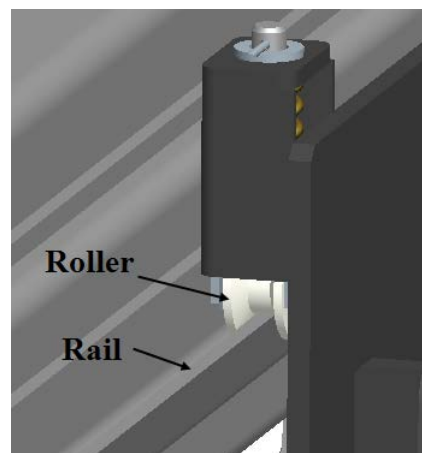

Figure 3-Roller Seat on Rail
4. Extend each roller adapter from the base of the Jackbeam and place on lift with the rollers centered on the deck rails. see **Figure 3**.